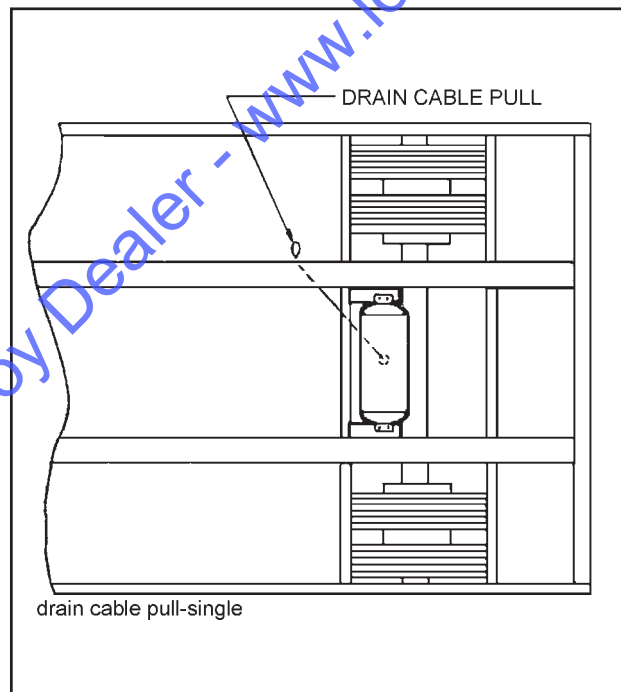

Figure 4-9 Drain Cock Locations
- d. Drain air reservoir daily. A drain cock on the bottom of each air reservoir vents the tank to drain collected water and oil. If held open, air pressure in the tanks is relieved, causing the emergency or parking brakes to be applied (See Figure 4-9).